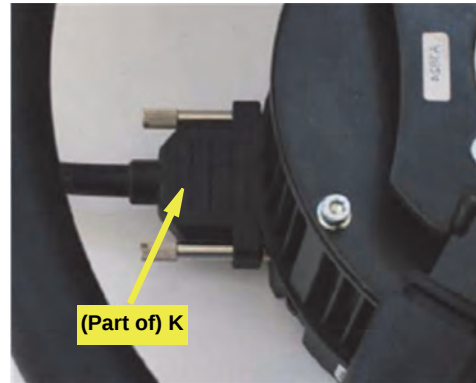

Figure 5b: Junction box comms cable connected to steering wheel assembly
- c. Clip the junction box **K** into place on its bracket **L** (neither shown) then connect **K**'s 15-pin connector cable to the communications port on the steering wheel assembly (Figure 5b). Use clip **N** suitably (not shown).